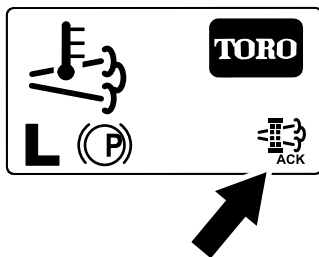

Figure 64
- The InfoCenter displays the home screen and the regeneration acknowledge icon (Figure 64) appears in the lower right corner of the screen as the regeneration processes.